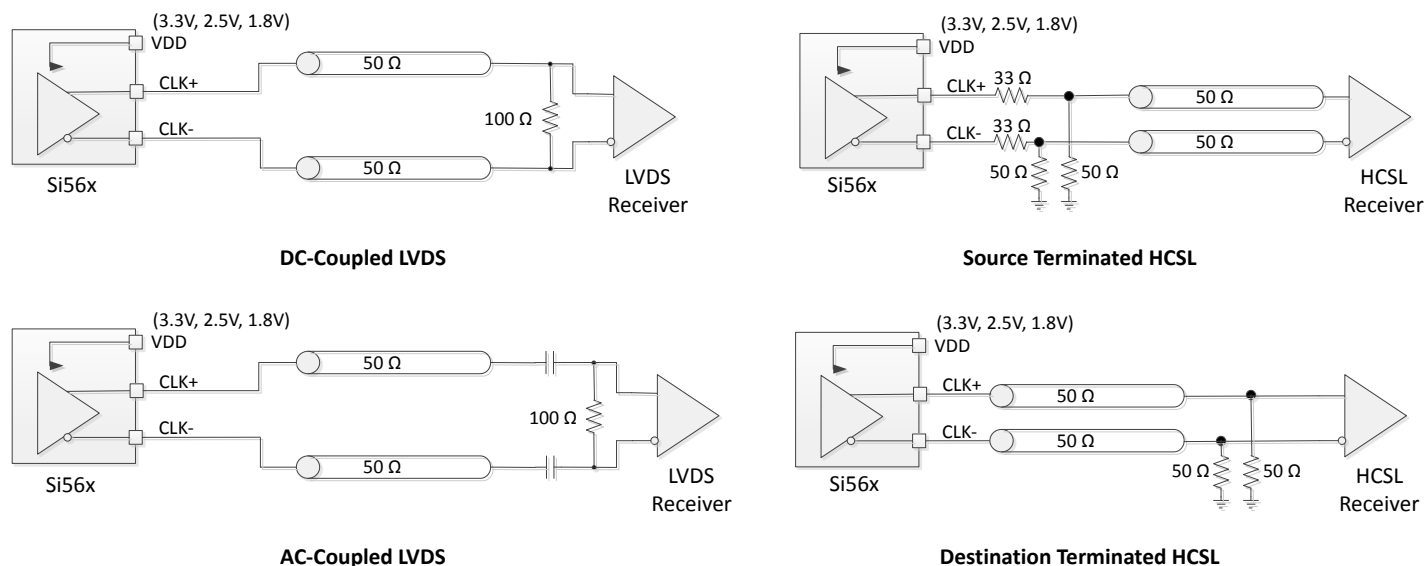

Figure 4.2. LVDS and HCSL Output Terminations
4. Rterm = 100 Ω (differential) (see Figure 4.2).
5. Rterm = 50 Ω to GND (see Figure 4.2).